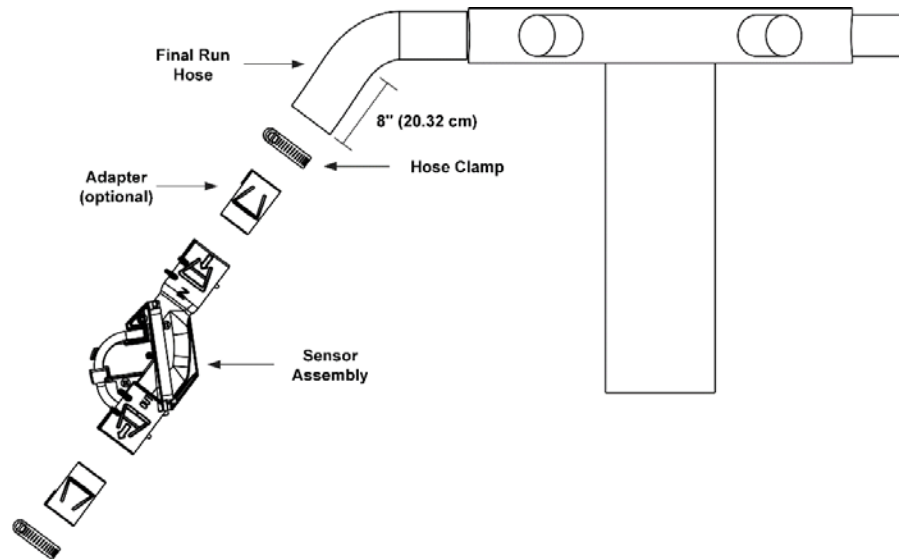

Figure 5: Installing Streamline 1-inch and 1.25-inch flow sensors on a manifold
1. If you are using adapters, snap adapters into the sensor as shown in Figure 5.